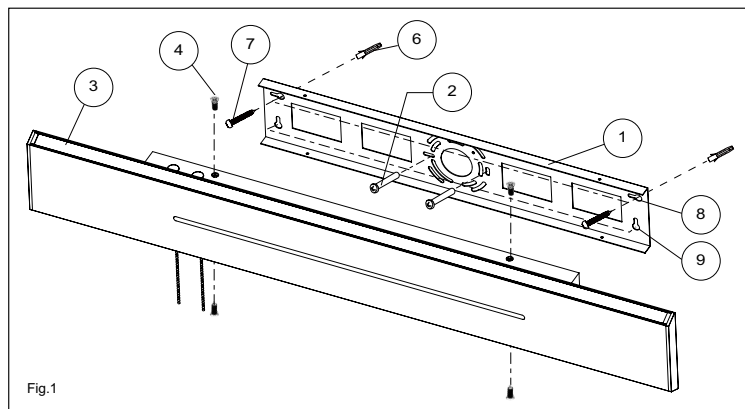

Fig.1
- Install fixture (3) by aligning top and bottom side holes over the mounting bracket (1) then using four screws (4) to secure it. (in figure.1)